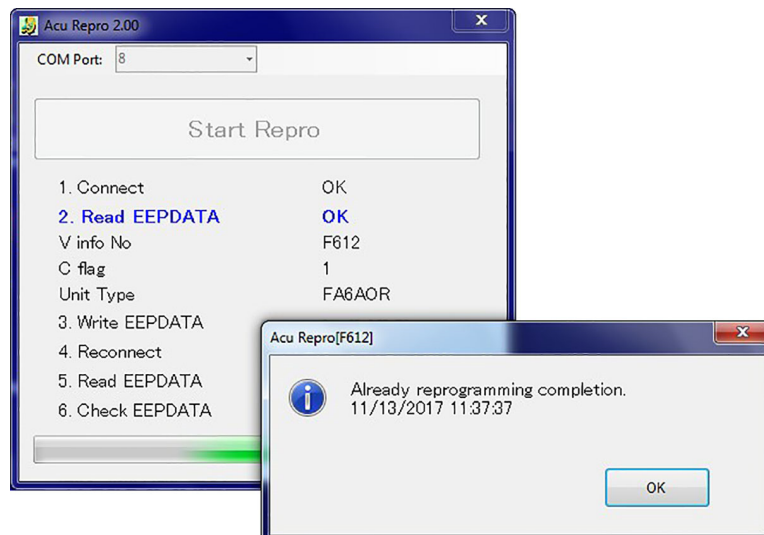

Figure 7
- If the screen in Figure 7 appears, the air bag diagnosis sensor unit has already been reprogrammed.